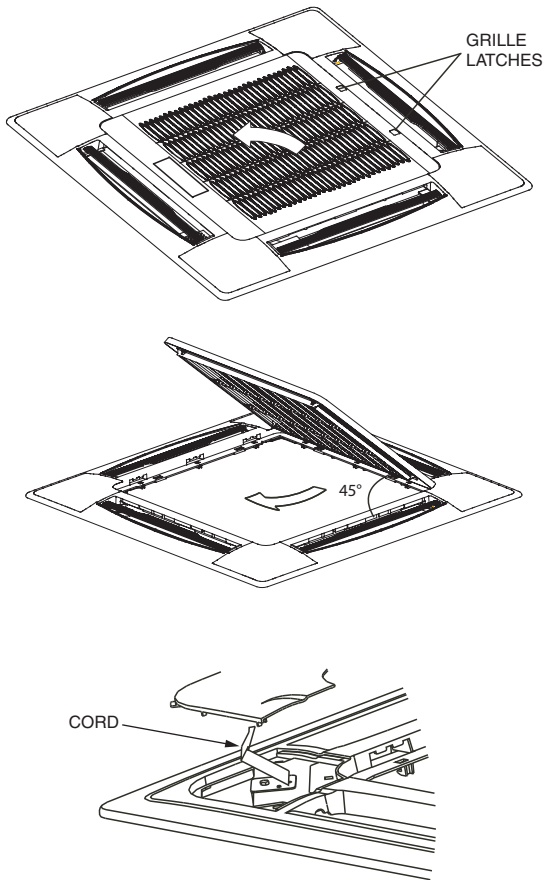

Fig. 9 — Removing Grille from Panel
3. Unscrew the bolts on the 4 corners of the cover panel. Remove the cover by loosening the cord. See Fig. 9.